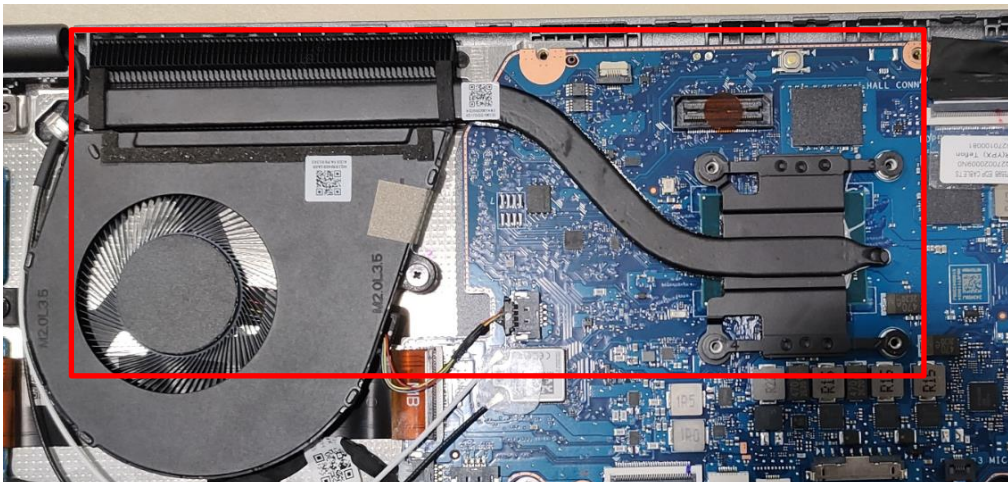

Figure 3-23. THERMAL Removal
2. Remove the THERMAL from MB (Figure 3-23).